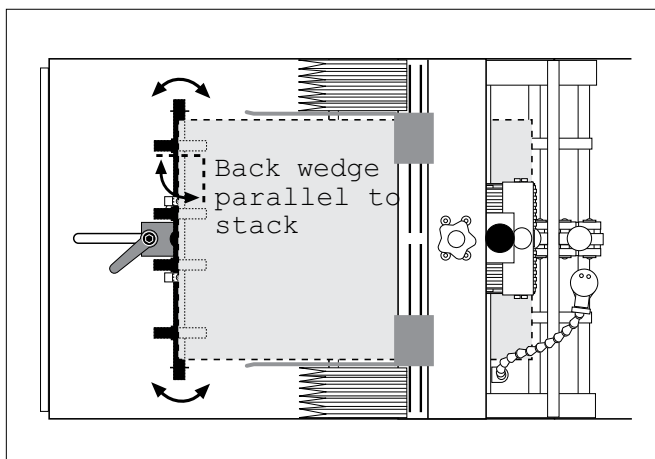
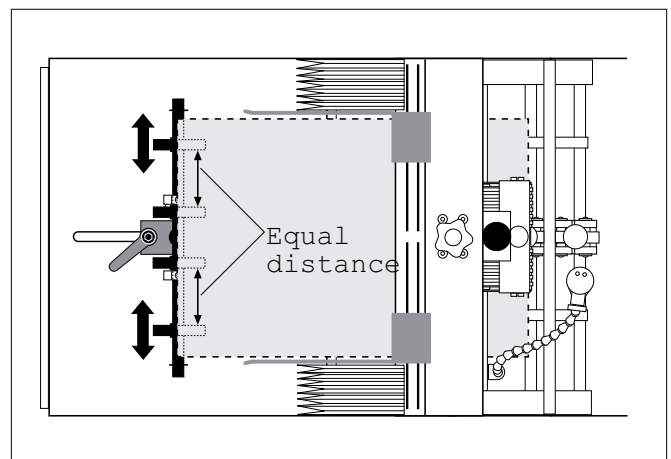

**Figure 3-11. Adjusting Back Wedge for Proper Lift**
**Figure 3-12. Adjusting Roller Position**
4. Move the back wedge forward and backward until the bottom sheet is not touching the table top (Figure 3-11). A good starting point is to measure about 5/8 in. (16 mm) from the bottom sheet to front edge of table top. Then as you test, you can “fine tune” from this point. *You can also fine tune back wedge location by loosening the roller swivel wing-nut to pivot the rollers back and forth (Articulating Roller Wedge only (Figure 3-12).*